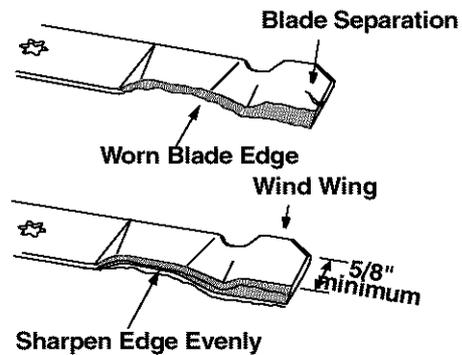

Figure 14
- To properly sharpen the cutting blades, remove equal amounts of metal from both ends of the blades along the cutting edges, parallel to the trailing edge, at a 25° to 30° angle. See Figure 14.
IMPORTANT: If the cutting edge of the blade has already been sharpened to within 5/8" of the wind wing radius, or if any metal separation is present, replace the blades. See Figure 14.